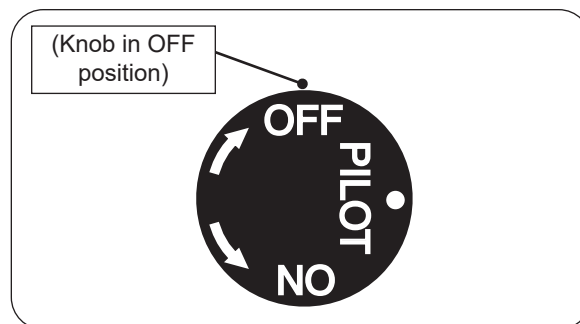

Fig. 25-2 Pilot shut down
2. Locate the valve on the side of the unit. Push in the gas control knob slightly and turn clockwise ↻ to **OFF** (see Fig. 25-2).
Push in the control knob slightly and turn clockwise ↻ to **OFF**. Do not force. See Fig. 25-2.